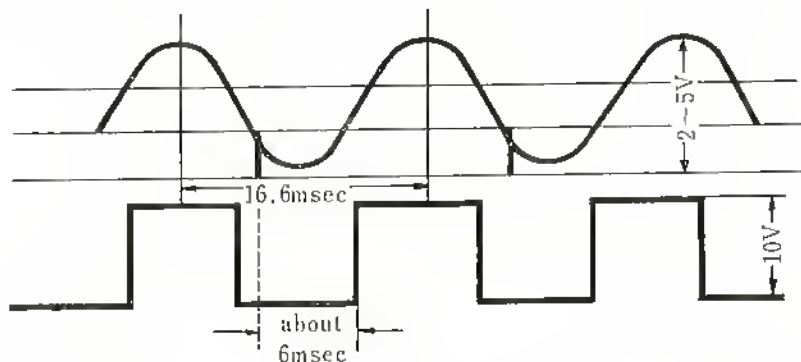

Fig. 43 Wave-form at Buffer Oscillator
- B. Confirm that the played back signal appears at the place as shown in Fig. 43 when the tape is played back and there must be an approximately 6msec. phase difference between the pulses at TP205 and TP206.